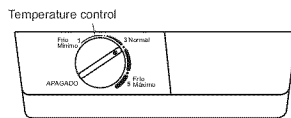

Figure 1.
- Set the temperature control to 3 (normal). Temperature control adjustments range from 1 (warmest) to 5 (coldest) (figure 1).